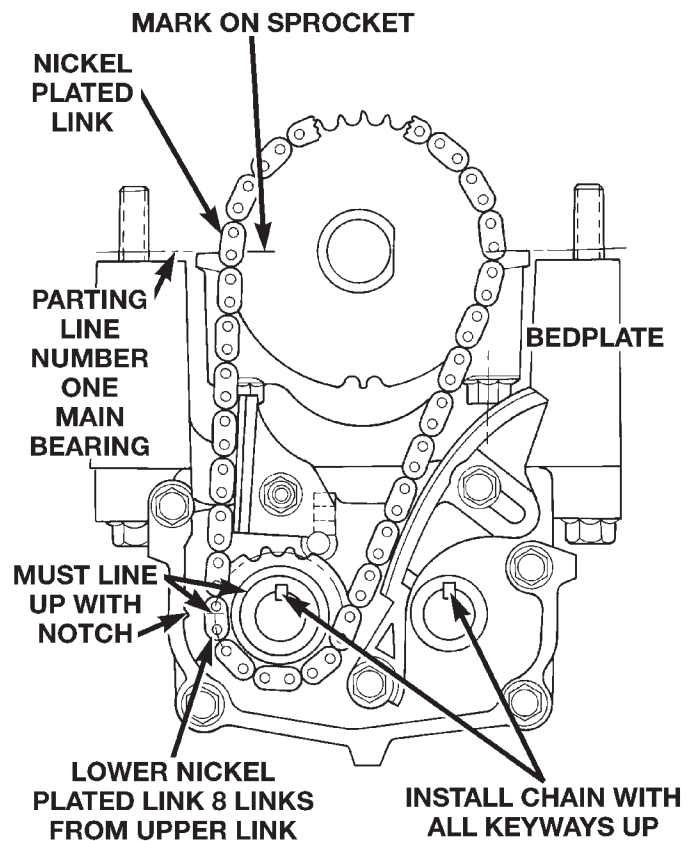

Fig. 46 Balance Shaft Timing
(5) Turn crankshaft until number one cylinder is at Top Dead Center (TDC). The timing marks on the chain sprocket should line up with the parting line on the left side of number one main bearing cap. (Fig. 46).
(6) Place chain over crankshaft sprocket so that the nickel plated link of the chain is over the number 1 cylinder timing mark on the crankshaft sprocket (Fig. 46).
(7) Place balance shaft sprocket into the timing chain (Fig. 46) so that the timing mark on the sprocket (yellow dot) mates with the (lower) nickel plated link on the chain.
(8) With balance shaft keyways pointing up (12 o'clock) slide the balance shaft sprocket onto the nose of the balance shaft. The balance shaft may have to be pushed in slightly to allow for clearance.